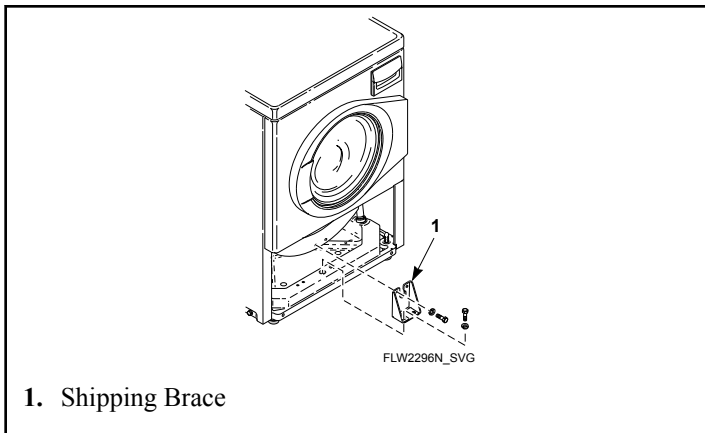

Figure 23
4. Attach shipping brace to weight and base using four bolts and washers. Refer to *Figure 23* .